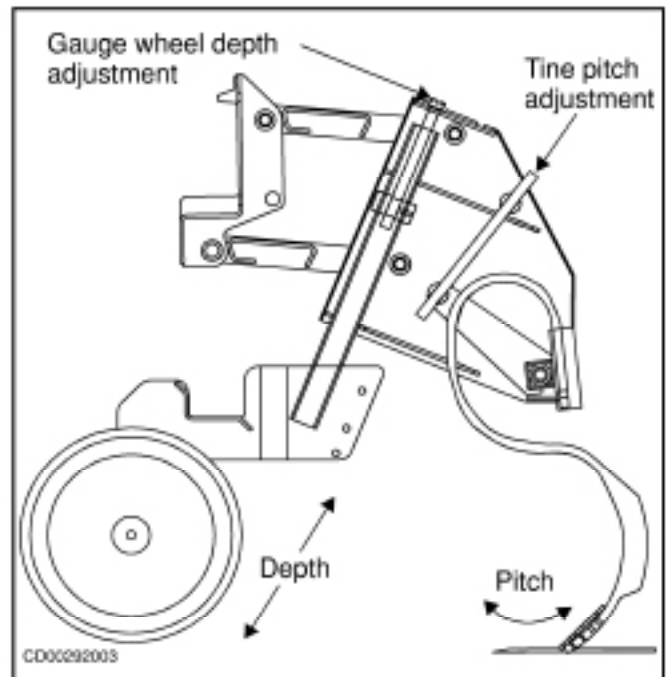

Figure 17 Gang Adjustment
4. Set tine pitch by adjusting tine pitch adjustment screw as shown in Figure 17.